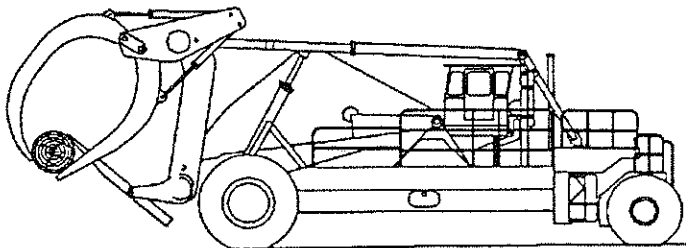

Fig 4-11
4. Fig. 4-11 shows a good example of the Lumberjack's flexibility. The log is under the tines and is held by the holddown and kickoff arms. Partial loads should be held with the holddown and the kickoff arms.